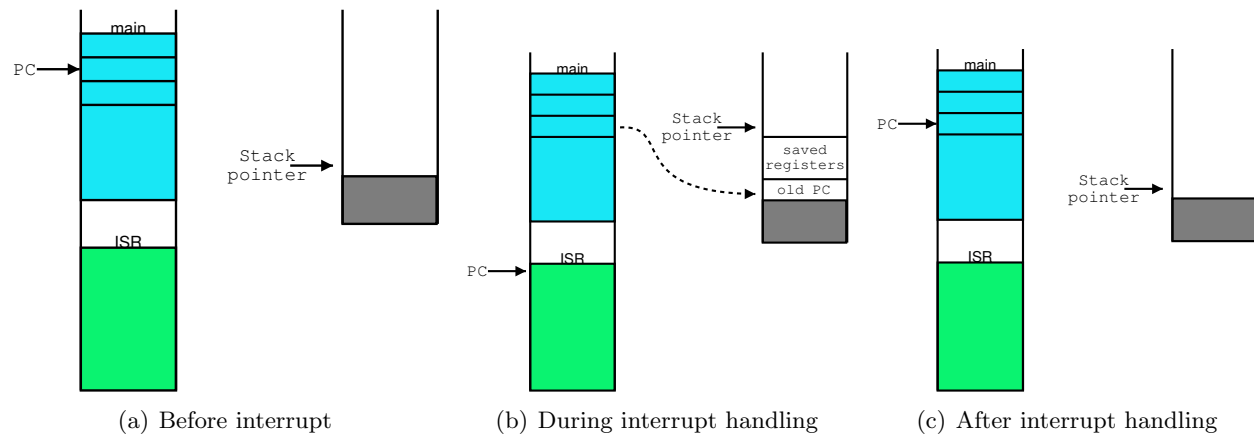

Figure 12: Main memory and stack when an interrupt occurs
Interrupts are a way of signaling the CPU in an asynchronous fashion that servicing is required. When an interrupt occurs the CPU finishes execution of its current instruction, saves any needed registers and the program counter (PC) on the stack and transfers execution to the Interrupt Service Routine (ISR). The CPU then executes the ISR and when finished, restores the PC and continues execution of the main program. This sequence is shown in Figure 12. The CPU is only interrupted when a service request is received, so no waiting is takes place and useful work can be done between interrupts. Interrupts can be *vectored* which means that each interrupt has a unique interrupt vector, and therefore a separate ISR. With vectored interrupts, the CPU will automatically execute the appropriate ISR when an interrupt occurs and there is no need to determine which device generated the service request. PC's have a standard interrupt vector structure. An interrupt subroutine may be "installed" by changing the instruction at the appropriate vector. The PIC16F877 does not